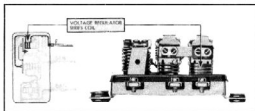

Fig. 15—Voltage Regulator Series Coil
The series winding on the core consists of a few turns of larger diameter wire, one end of which is connected to the field (F) terminal of the regulator and the other end to the upper point mounting of the current regulator, Fig. 15. This winding